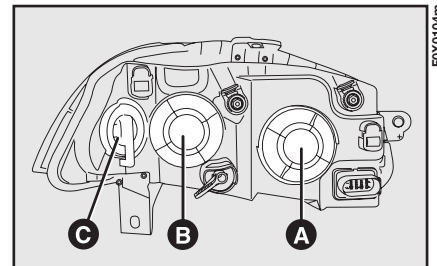

fig. 123
- remove cover A-fig. 123 to replace the dipped beam bulb or B to replace the main beam bulb;
- remove cover C-fig. 123, turning it clockwise;
- remove cover B-fig. 123, turning it anticlockwise;